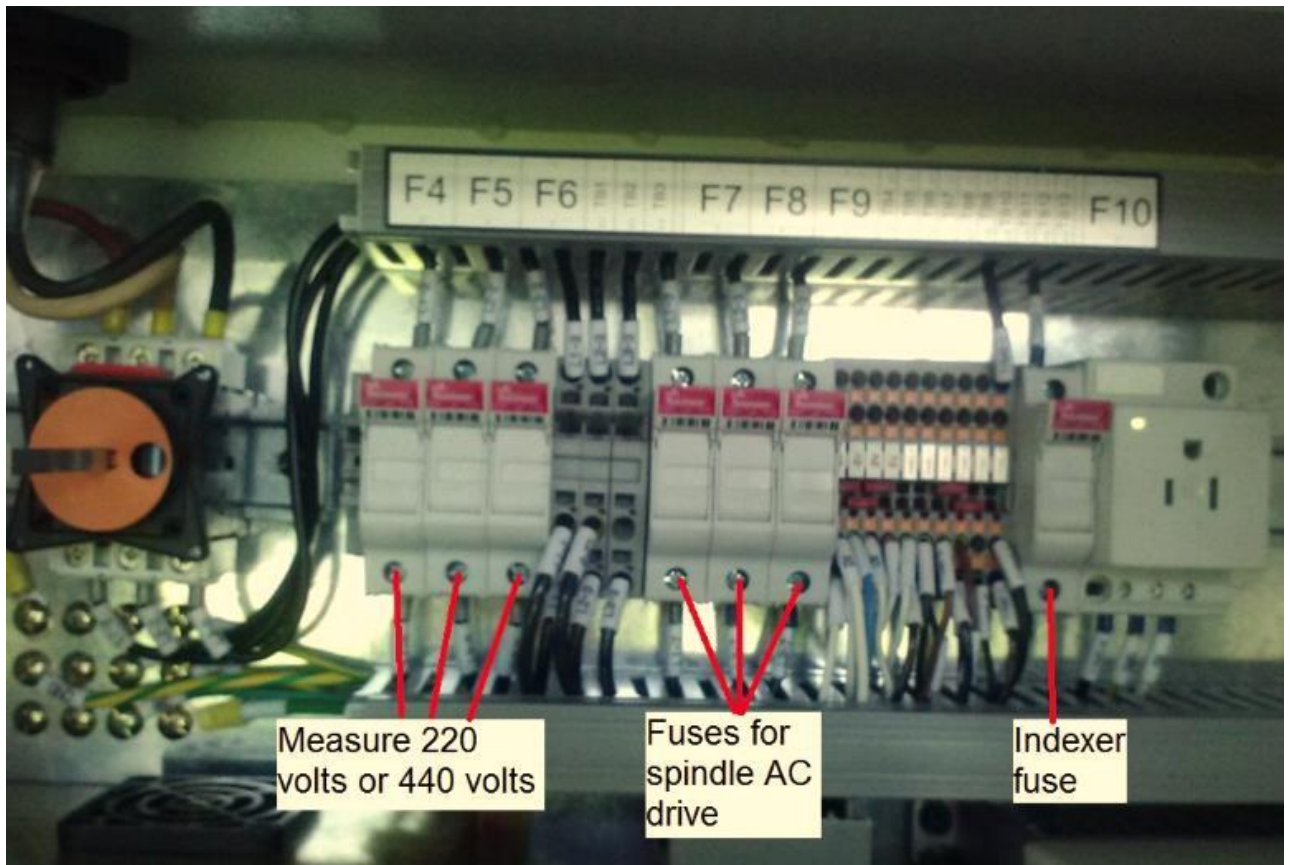

Figure 5.7.1a
1. 220VAC (208 to 240VAC), 3 phase – This is the main power to the entire machine. When measuring this voltage measure between each phase, as seen in figure 5.7.1a. It powers the spindle and axis motors.
There are 17 field replaceable fuses in the system for 220 volt machines and 440 volt machines. See figures 5.7.1a and 5.7.2a.